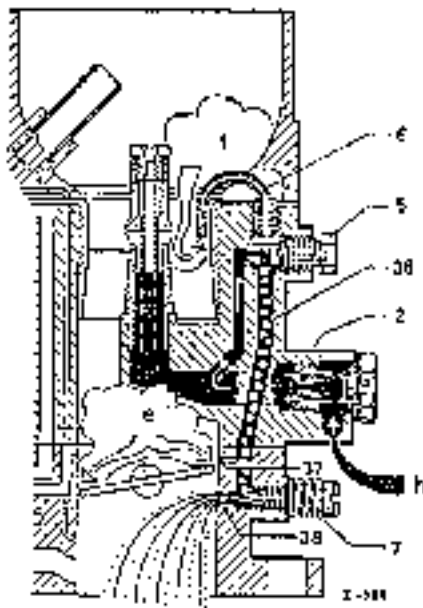

Fig. 07-0:17
The fuel which is drawn in via the idle fuel jet (5) is mixed with the air from the idle suction tube (6) (or the idle air jets), forming a mixture which passes into the idle canal (36). In the idle position a further supply of air for the idle mixture enters through the by-pass slot (37) (or the by pass bores) above the throttle valve and then passes into the suction canal through the idle mixture bore (38) and combines with the air streaming through the throttle valve gap to form the final idle mixture (Fig. 07-0:17).